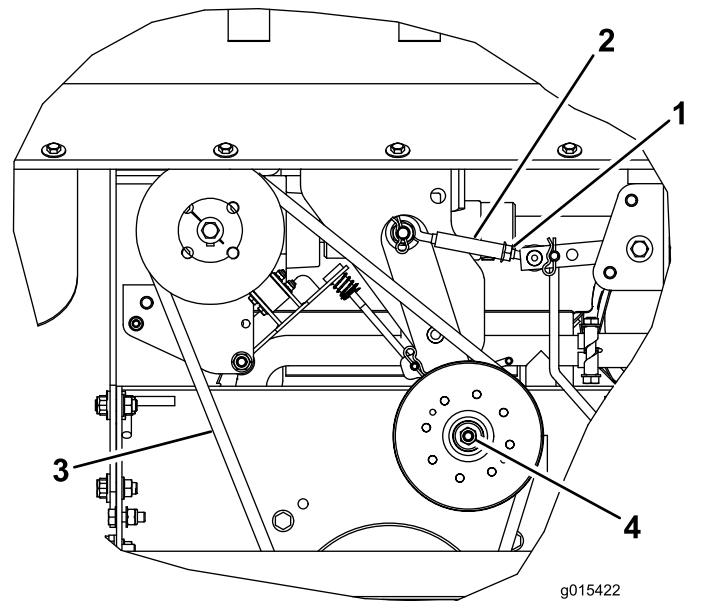

Figure 10
Visually inspect the belt (Figure 10) for dirt, wear, cracks, and signs of overheating. If the belt is excessively worn or shows any signs of damage, replace the belt.
Note: Figure 10 shows the belt viewed from underneath, but the belt can be checked, adjusted, or replaced from either the top or bottom after removing the relevant guard.
The proper mower belt tension is 4.5 kg (10 lb) of force to deflect the belt 13 mm (1/2 inch) at the midpoint of the longest span (Figure 10).
- A. Loosen the locknut (Figure 10).